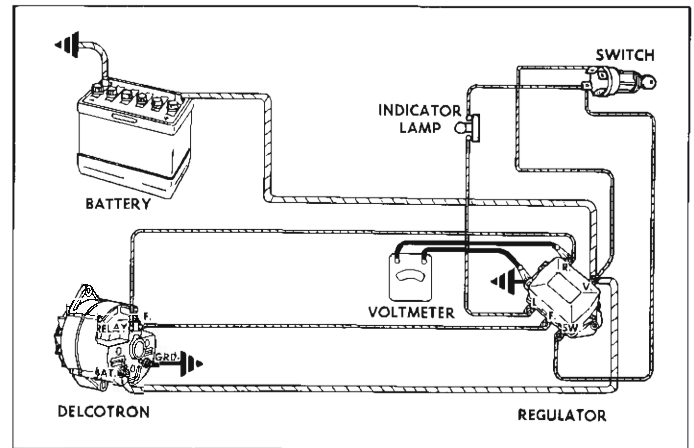

Fig. 3—Checking Indicator Light Relay
2. If the light comes on and continues to glow with the generator operating at moderate speed, check the voltage from regulator "R" terminal to ground with the generator in operation (fig. 3). If the reading is more than 5 volts, the indicator relay is defective. Check further as outlined under regulator Service Operations. If the reading is 5 volts or less, trouble elsewhere in the system is indicated. See regulator service procedure.
2. If the light comes on and continues to glow with the generator operating at moderate speed, check the voltage from regulator "R" terminal to ground with the generator in operation (fig. 3). If the reading is more than 5 volts, the indicator relay is defective. Check further as outlined under Service Operations. If the reading is 5 volts or less, trouble elsewhere in the system is indicated. Check further as outlined below.